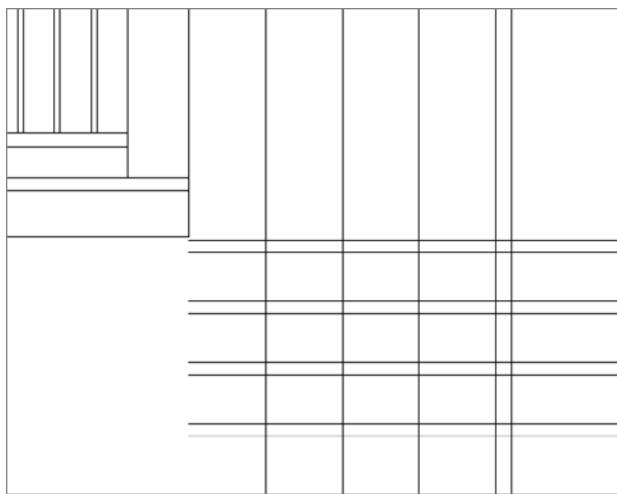

FIGURE 10.26 Offset the lines downward.
3. Offset each of the stair tread lines downward 1 5/8" (41 mm) (see Figure 10.26).